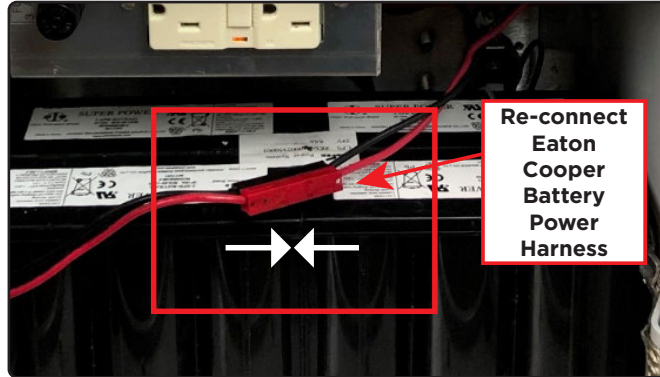

Figure 41 Re-connect Eaton Cooper Battery Power Harness
2. Re-connect the Eaton Cooper Battery Power harness (Figure 41).